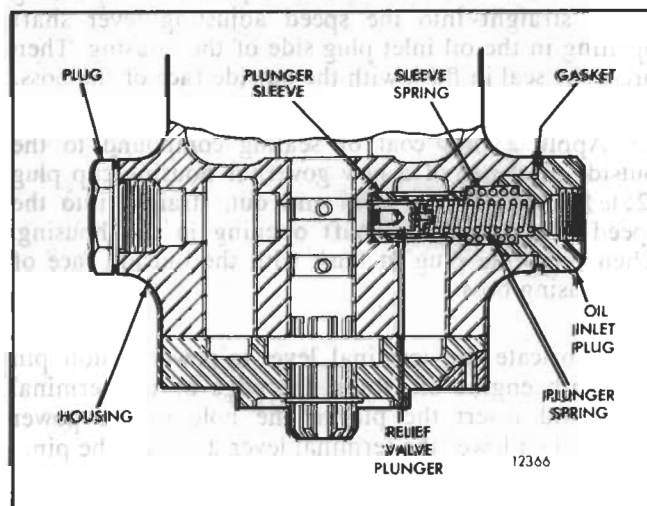

Fig. 14 - Location of Oil Relief Valve Plunger, Plunger Sleeve, Springs, Oil Inlet Plug and Dummy Plug
8. Install the ball head lock ring (41) in the groove in the ball head shaft with a pair of snap ring pliers.
9. Refer to Fig. 14 and install the relief valve plunger, plunger sleeve, plunger spring, sleeve retaining spring, oil inlet plug and dummy hole plug in the governor housing as follows:
10. Lubricate the power piston (46) with engine oil. Then insert the piston, small end down, straight into the piston bore in the governor housing and push it in until it bottoms.